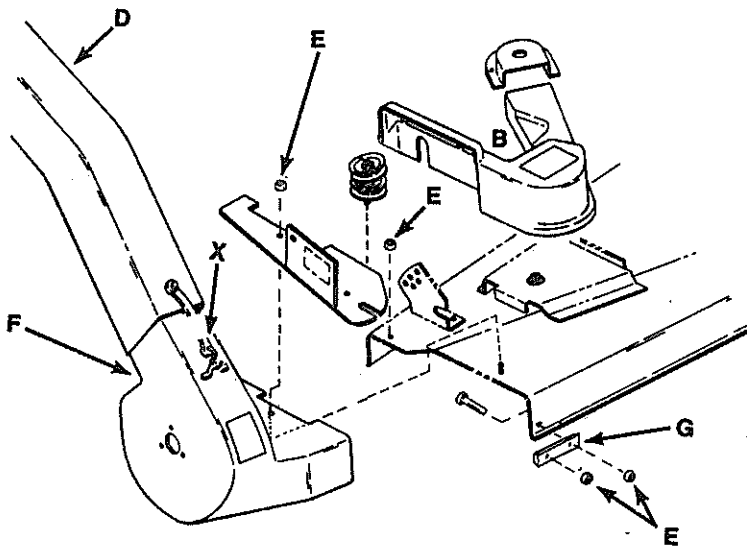
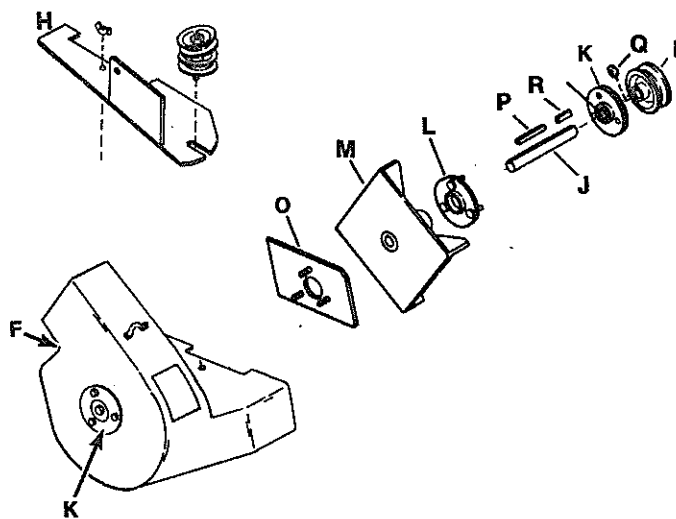

Figure 6-25
Figure 6-26
- d. Unhook rubber latch (X, Figure 6-25) and remove chute assembly.
- e. Remove the 4 nuts (E) from blower housing (F) and support bracket (G). Blower housing should now be loose.
- d. Remove impeller shaft (J) by driving through either side of blower housing.
- e. Remove inner bearing flange (L) from blower housing.
- f. Remove impeller fan (M) by prying through opening of blower housing. Fan should be indexed with opening as shown. If necessary, apply heat (with a heat gun) at location (N) to make housing more pliable.
- a. Remove mounting frame (H, Figure 6-26) from blower housing (F).
- b. Remove pulley (I, Figure 6-26) and keys from impeller shaft (J).
- c. Remove bearing flanges and bearings (K) from blower housing (F).
- g. Remove outer bearing flange (O).
- a. Install outer bearing flange (O, Figure 6-26).
- b. Install impeller fan (M) through opening in blower housing.
- c. Install impeller shaft (J) through impeller fan. Install key (P).
- d. Install inner bearing flange (L).
- e. Install washers (Q) on impeller shaft.
- f. Install bearing flanges and bearings (L) to blower housing.
- g. Install key (R) onto exposed shaft. Install pulley (I).
- h. Install mounting frame assembly (H) onto blower housing.
- b. Re-install chute assembly (D).
- c. Install belt and adjust (Figure 6-25).